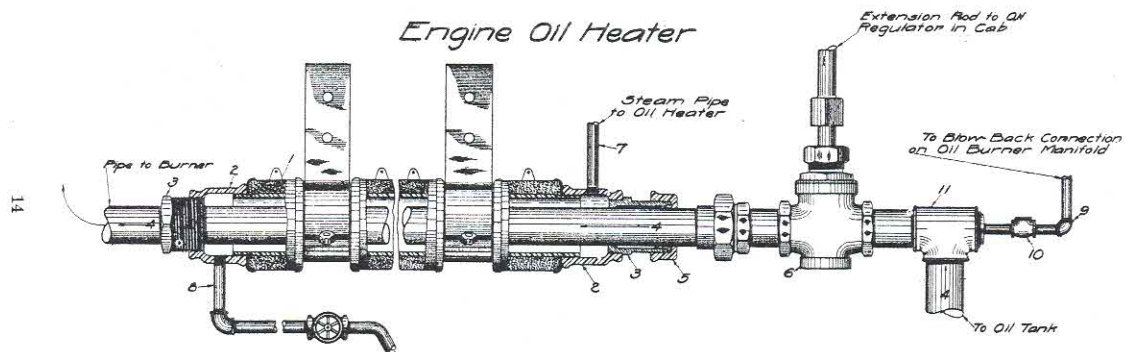

Fig. 2
In the operation of engine oil heater, steam is admitted by opening valve (7), Figures 6 and 7. Steam passes into engine heater casing (1), Figure 2, through connection (7) and around oil supply pipe (4), heating the oil and escaping through drain (8). The valve controlling the flow of steam to heater is called the engine oil heater valve. This valve should be opened sufficiently to allow a light flow of steam through the heater casing, as the opening of the heater valve to its full capacity accumulates high pressure steam in
When necessary the blow-back valve (4), Figures 6 and 7, may be used to heat the inside of the oil supply pipe (4), Figure 2, by closing the oil tank valve and opening the firing valve and allowing steam to pass through blow-back valve in cab gradually. The firing valve and blow-back valve should always be closed before opening the oil tank valve.